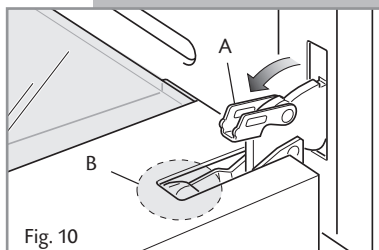
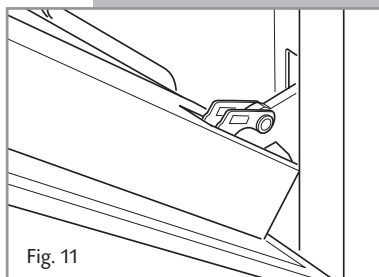

Fig. 10
Fig. 11
- Fully open the lever A on the left and right hinges (Fig 10).
- Gently close the door (Fig. 11) until the left and right hinges are hooked to part B of the door (Fig. 10).
1. Make sure the door is locked open (see fig. 11).